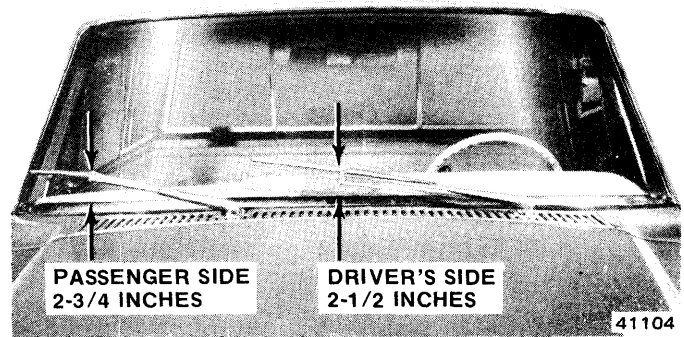

Fig. 17-12 Wiper Arm Park Position—Cherokee-Wagoneer-Truck
(2) To install, position auxiliary arm (if equipped) over pivot pin and engage retainer clip. Push wiper arm over pivot shaft. Be sure that pivot shaft is in park position and wiper arm is positioned as shown in figure 17-12.